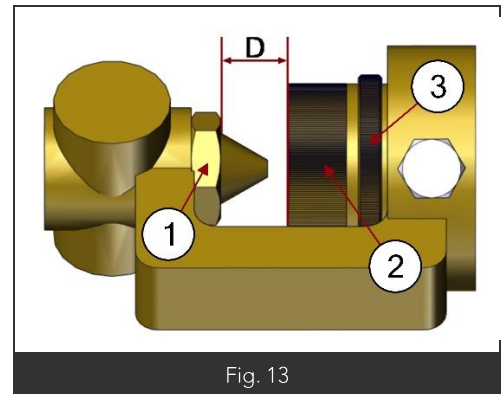

Fig. 13
- Release the air sleeve (Fig. 13 Item 3)
- Remove the injector (Fig.13 Item 2), replace it with the desired injector according to the table above (paragraph 4.1)
- Adjust the distance 'd' (Fig. 13) according to the data in the table above (paragraph 4.1)